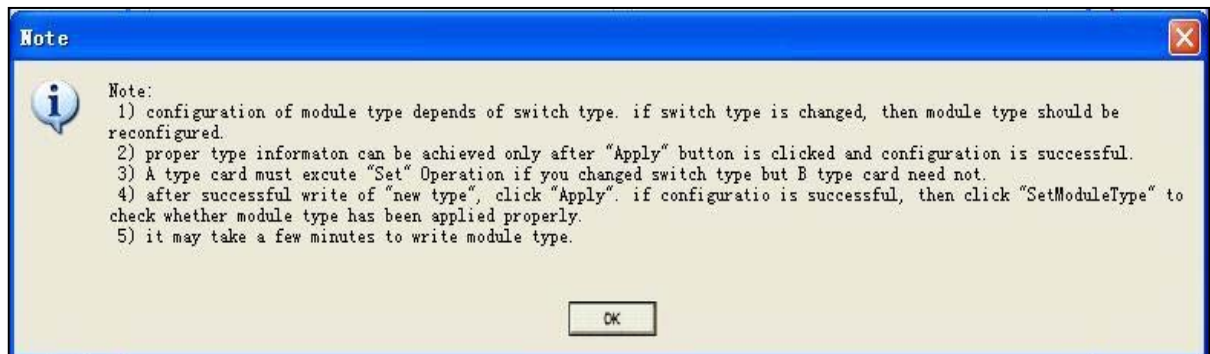

Figure 3-3
Step 3 : Now there pops up the dialog 'Note' as shown in Figure 3-3. Click the button 'OK' to enter the dialog box 'SetModuleType'.